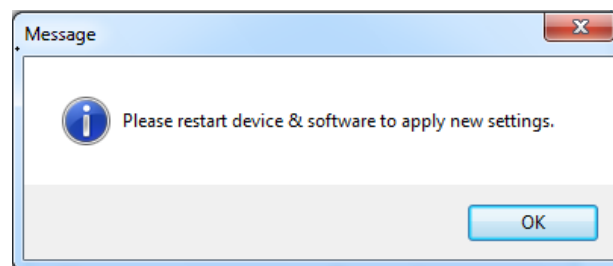

Figure 41
- This  option is use to reset Device. After clicking on reset button all stored settings in device will be reset (device will contain default values) except Baud rate, Data Bit, Parity and Stop Bit as shown in Figure 41. These three parameters does not affect by reset button. If user wants to change these parameters then refer 9.4.8.3